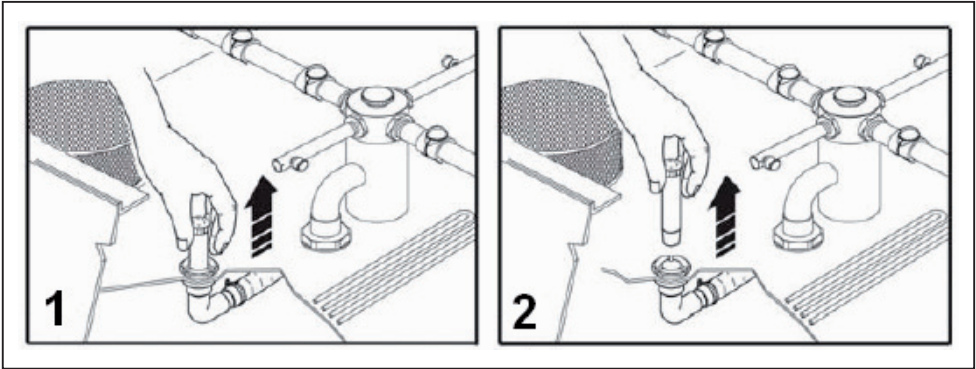

Fig. 16
2. Remove the overflow pipe (fig. 16)